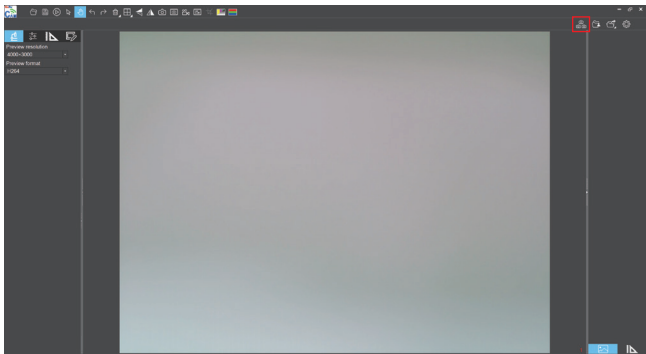
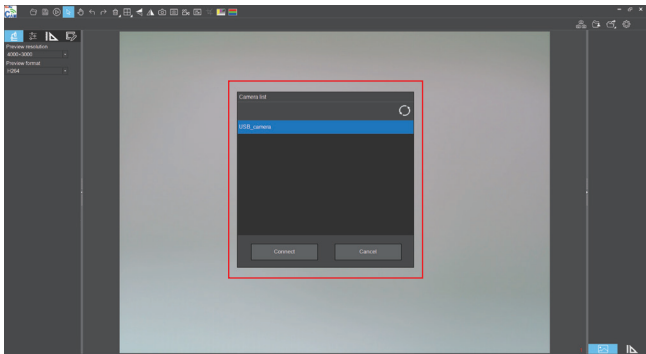

Figure 1
Figure 2
- (1) Connect a Windows PC or laptop that supports 5G WiFi IEEE802.11ac protocol to the same local area network as the camera.
- (2) Install and run the software PrimeCam Pro on the Windows PC or laptop.
- (3) When there is only one network camera in the local area network, the software can automatically get the live image from the camera.
- (4) When there are multiple network cameras in the same local area network, click the icon "📷" in the upper right corner of Prime Cam Pro (Figure 1), the list automatically shows all cameras in the current local area network (Figure 2), select a camera as needed, support switching midway at any time.